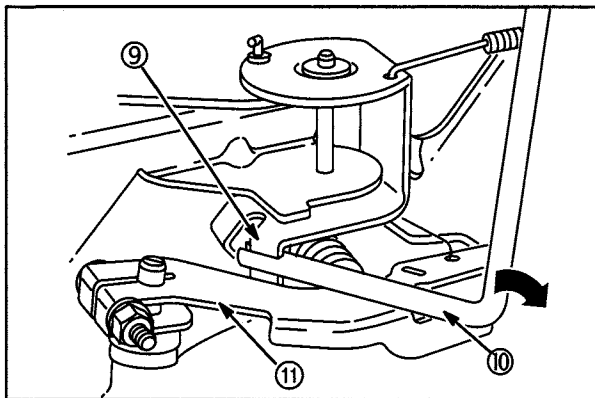

Fig. 23
11. With equipment control lever in SLOW position and engine running at governed idle, use Tang Bender #19352 (10), to bend throttle restrictor tang (9) so that it just contacts governor lever (11), Fig. 23.